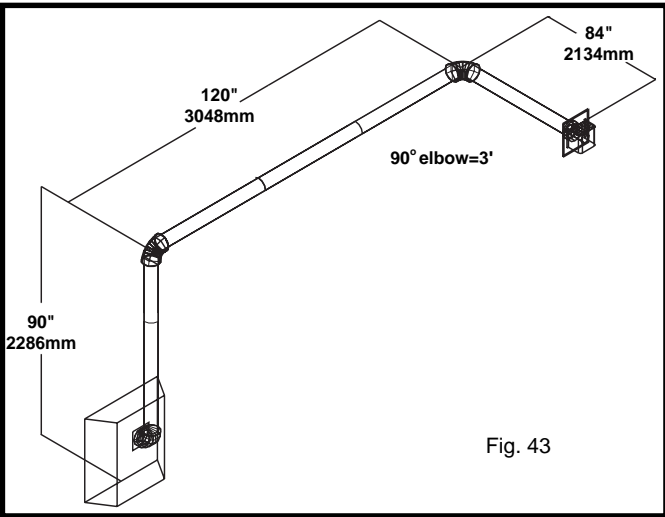

Fig. 43
If a 90 degree elbow is used in the horizontal vent run (level height maintained) the maximum horizontal vent length is reduced by 36 inches. Fig. 43. This does not apply if the 90 degree elbows are used to increase or redirect a vertical rise.
3. Select the indicated dimension, and position the fireplace in accordance with same. (See examples Fig. 43).